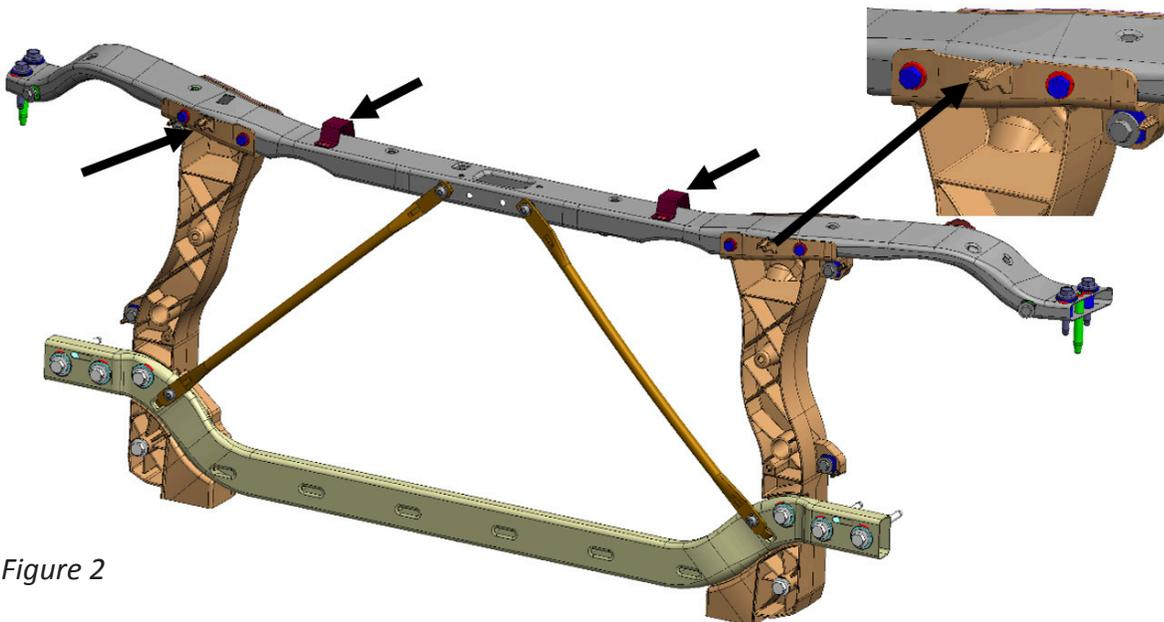

Figure 2
3. Use a cutting tool to remove the plastic and metal tabs on the radiator frame. Figure 2.